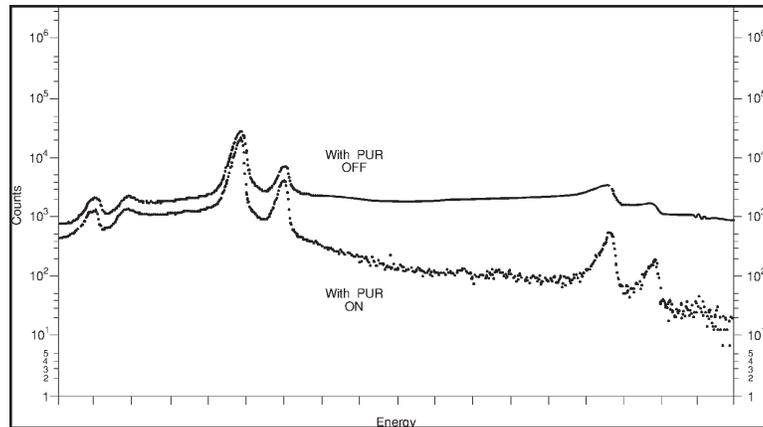

Figure 34 Comparing ^{57}Co Spectra w/ PUR On and Off
10. Compare the two spectra, LTC On and LTC Off, overlapping them with the compare function, as seen in Figure 34.